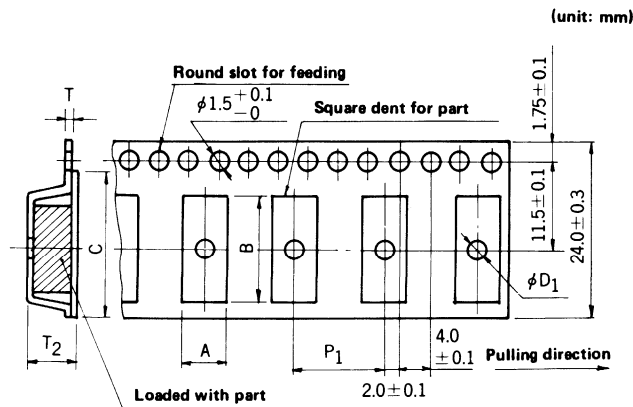

Fig. 8 Embossed taping types TE3212, 3216, 3220, 3224, 3228, and 3232
d) Types TE3212, 3216, 3220, 3224, 3228, 3232 (Fig. 8)